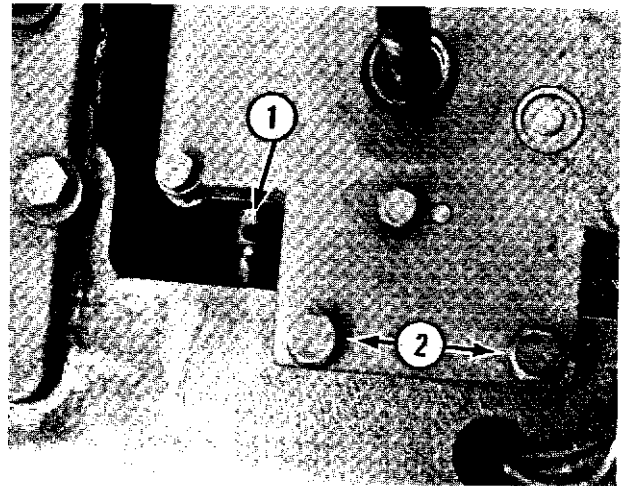

Fig. 12-4
- (1) Remove the overload slip clutch. Refer to: Overload Slip Clutch "Removal".
- (2) Drive the spirol pin (1, Fig. 12-4) out of the yoke shaft.
- (3) Remove the two hex head bolts (2, Fig. 12-4) and lift the gear box out of the mixer.
- (1) Align the bowl lift gear box output shaft spirol pin with the groove in the lift screw extension.
- (2) Lower the bowl lift gear box into place and secure with the two hex head bolts (2, Fig. 12-4).
- (3) Push the lift control handle into place and drive the spirol pin (1, Fig. 12-4) into the shaft.
- (4) Install the overload slip clutch. Refer to: Overload Slip Clutch "Installing".